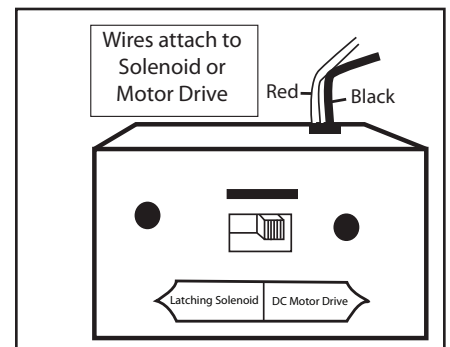

Fig. 12 Battery Pack Switch
3. The AFVK-SP-H/L & AFVK-SP-MH/L has (2) 8-inch wires (Red & Black) already connected to the Hi/ Lo solenoid (See Fig.12).
AFVK-SP-H/L-SPLIT the battery pack switch must be set to *LATCHING SOLENOID* position to operate the HI/LO solenoid. This switch is located on the face of the battery pack (See Fig. 12).
AFVK-SP-MH/L-SPLIT the battery pack switch must be set to *DC MOTOR DRIVE* position to operate the HI/LO feature of the DC Motor Drive. This switch is located on the face of the battery pack (See Fig. 12).